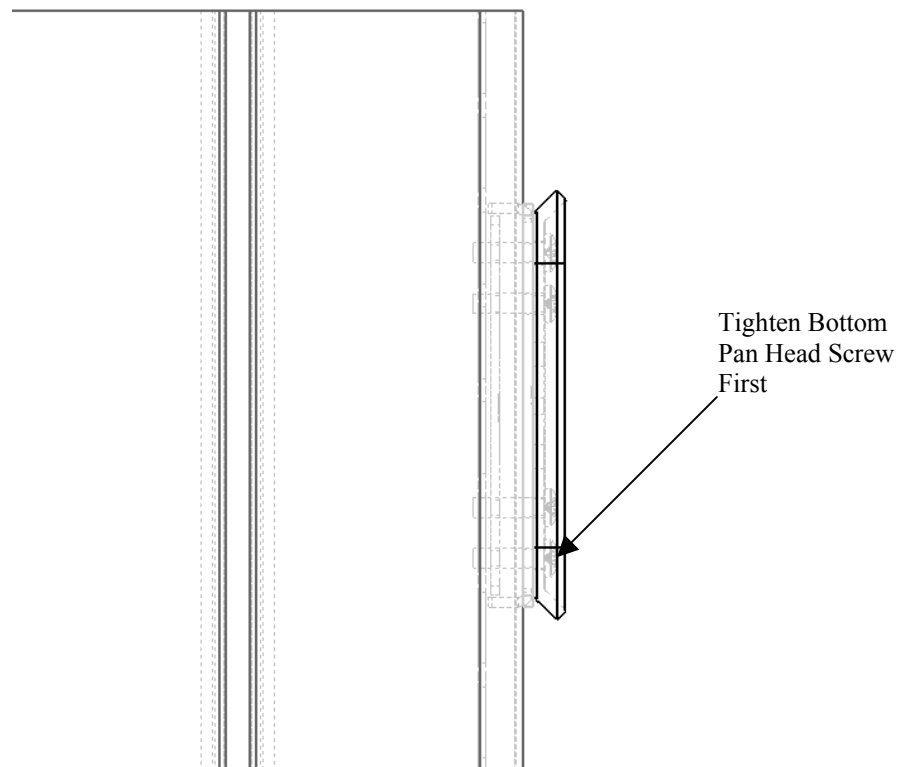

Figure 4
3. Tighten the bottom 10-24 pan head screw (see Figure 4).